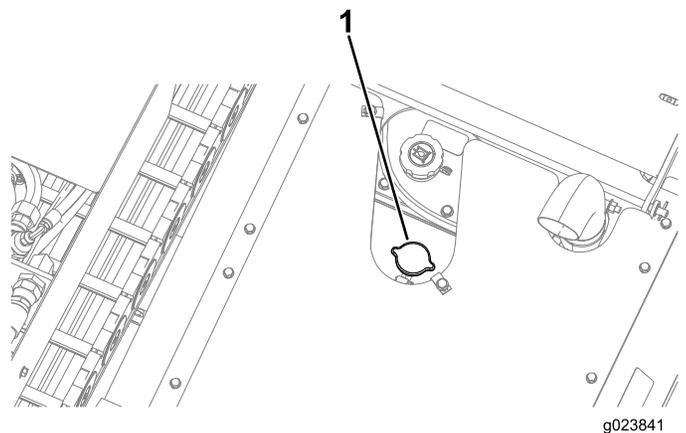

Figure 112
3. Remove the radiator cap (Figure 112).
5. Install the radiator filler cap, ensuring that it is tightly sealed (Figure 112).